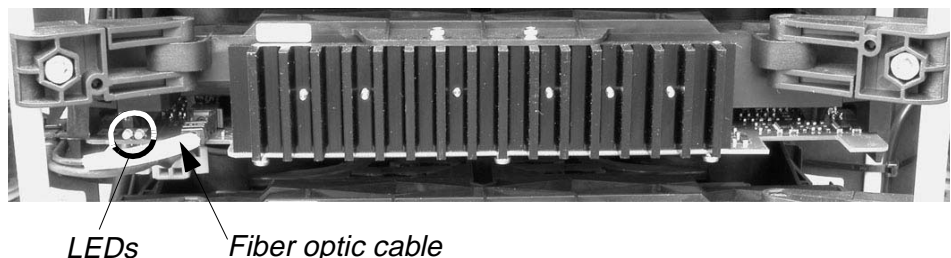

Figure 2-1 IGCT
- 2 Check the IGCT for burned components. In this case the whole IGCT must be replaced. Check that both LEDs are on. See *Figure 2-1* (*Figure 2-1* depicts the horizontal fitting position of IGCTs as applied in 7/9 MVA phase modules).